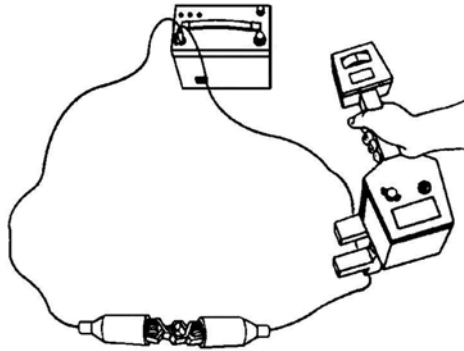

Figure 3-3
- 12 Connect the BLACK and RED ends of the Conductive Attachment together. Lay the connected wires out on the floor in a circular configuration (see Figure3-3). Plug the Conductive Attachment into the DIRECT/4820 CLAMP jack of the Transmitter.